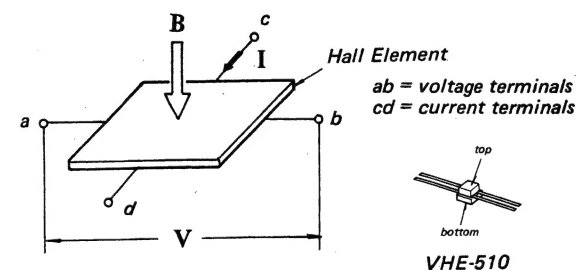

Fig. 1-1.
\* The Hall Effect: When a current (I) flows through a substance, and a magnetic field (B) is applied at right angles to the direction of current flow, a potential difference (V) will be generated in a direction at right angles to both the current and magnetic field. (See Fig. 1-1.)